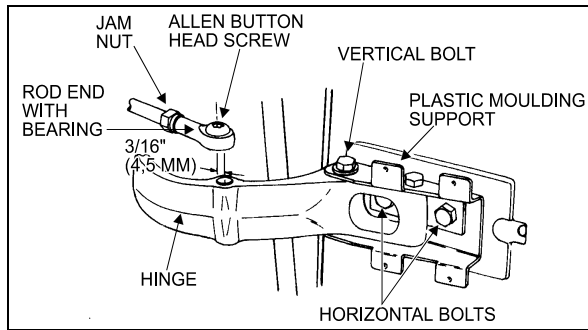

FIGURE 24: UPPER DOOR HINGE
2. Remove the Allen button head screw and the washer retaining the rod end with bearing to the upper hinge. See figure 24.